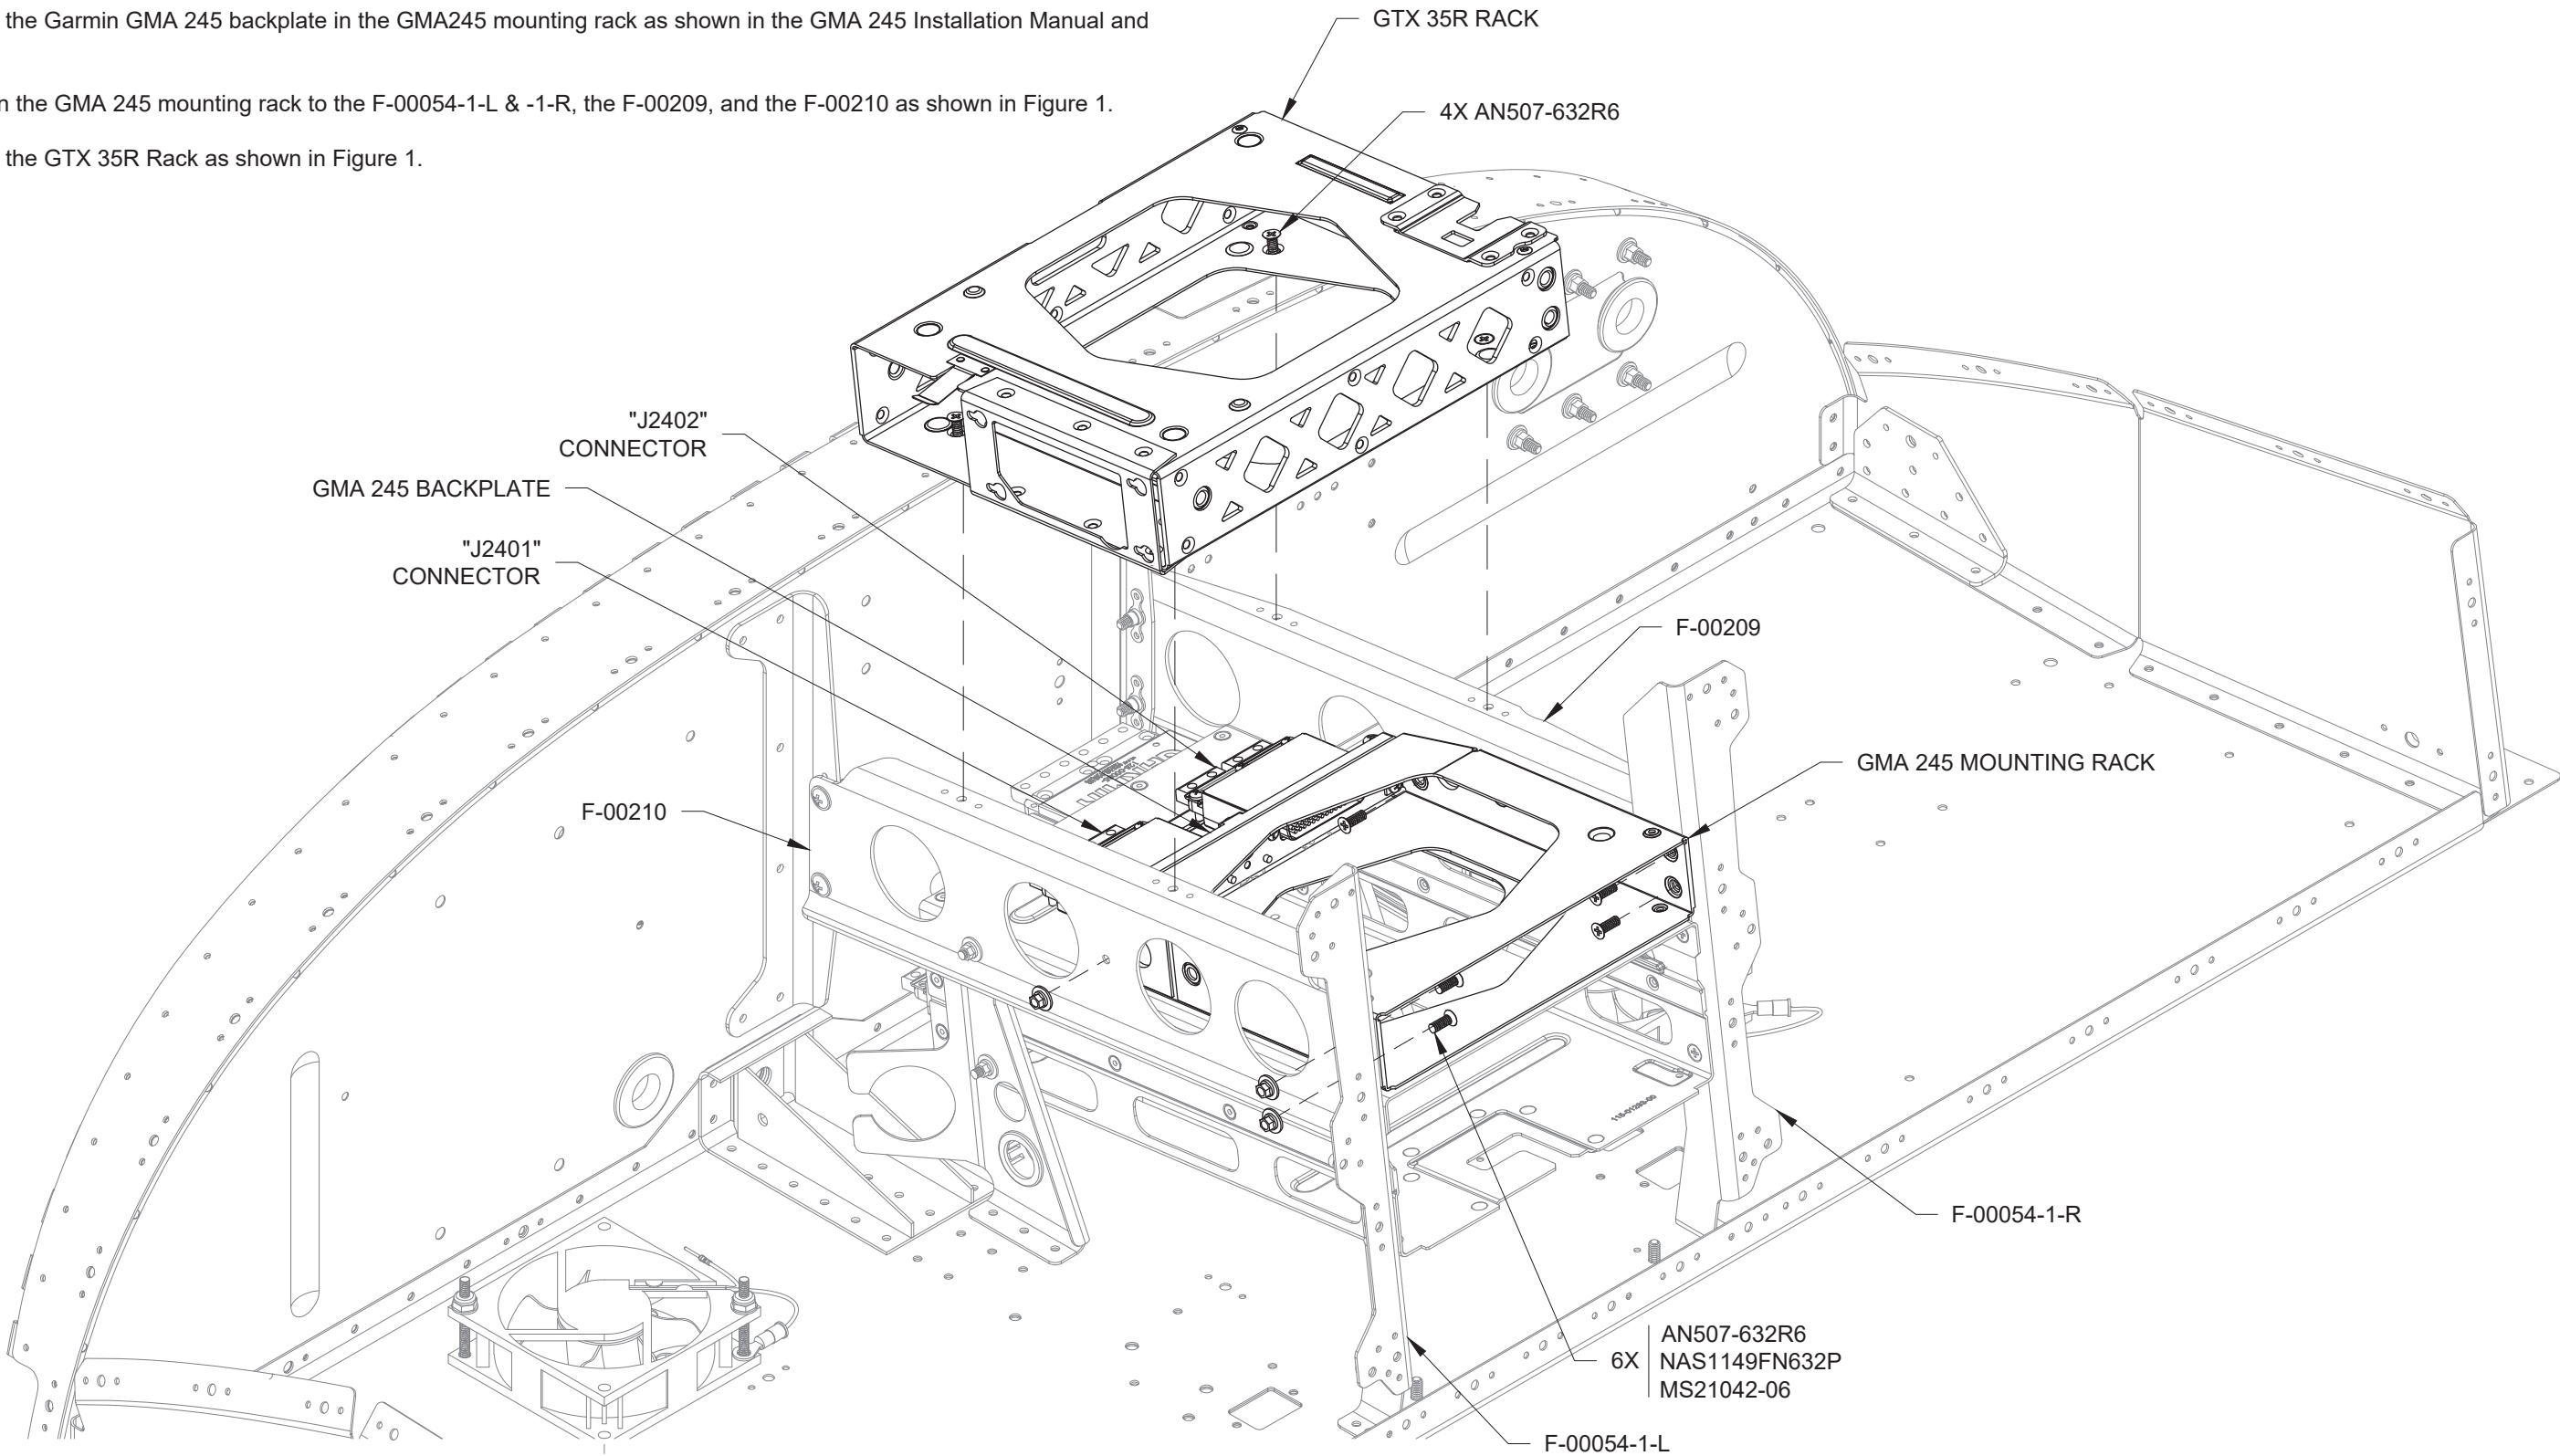

FIGURE 1: INSTALLING THE GMA 245 AND GTX 35R RACKS
Step 4: Install the GTX 35R Rack as shown in Figure 1.
Step 1: Apply a thin smear of fuel tank sealant around the three holes called out in Figure 1.